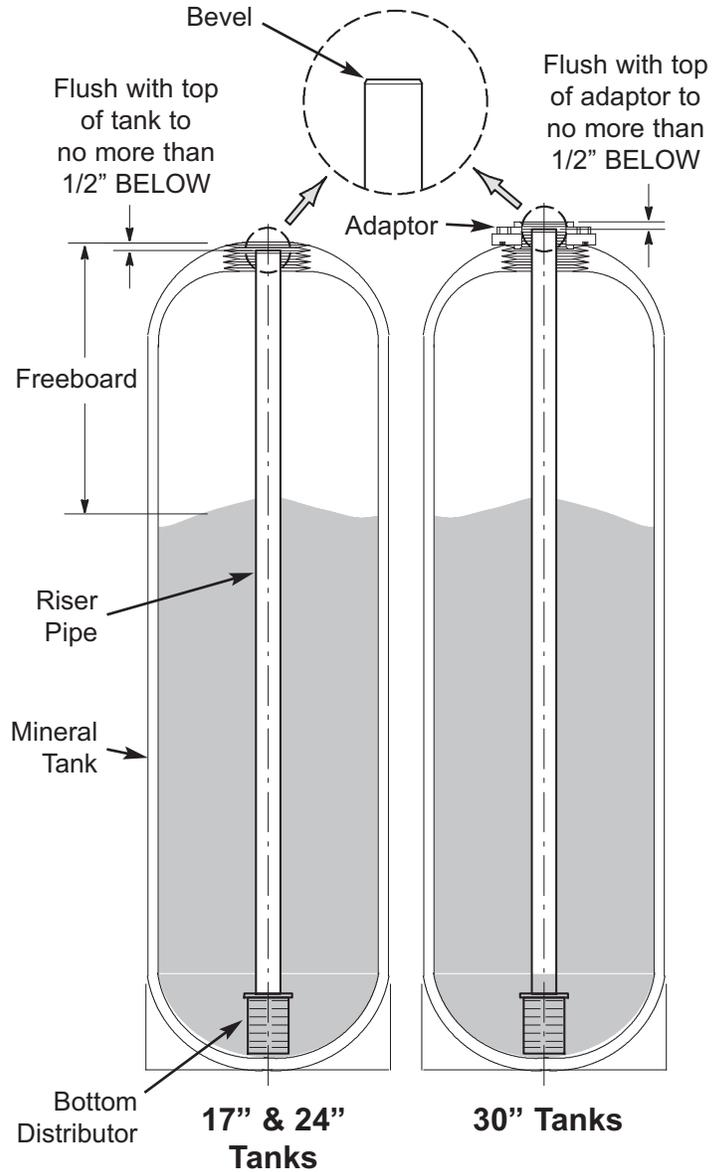

FIG. 1
3. On All Tanks: Place the bottom distributor into the resin tank and center it. Check the distributor length, as shown in Figure 1, and adjust it as needed. **It must be flush with to no more than 1/2" BELOW the top of the tank (or flush with to no more than 1/2" BELOW the top of the adaptor on 30" units).**